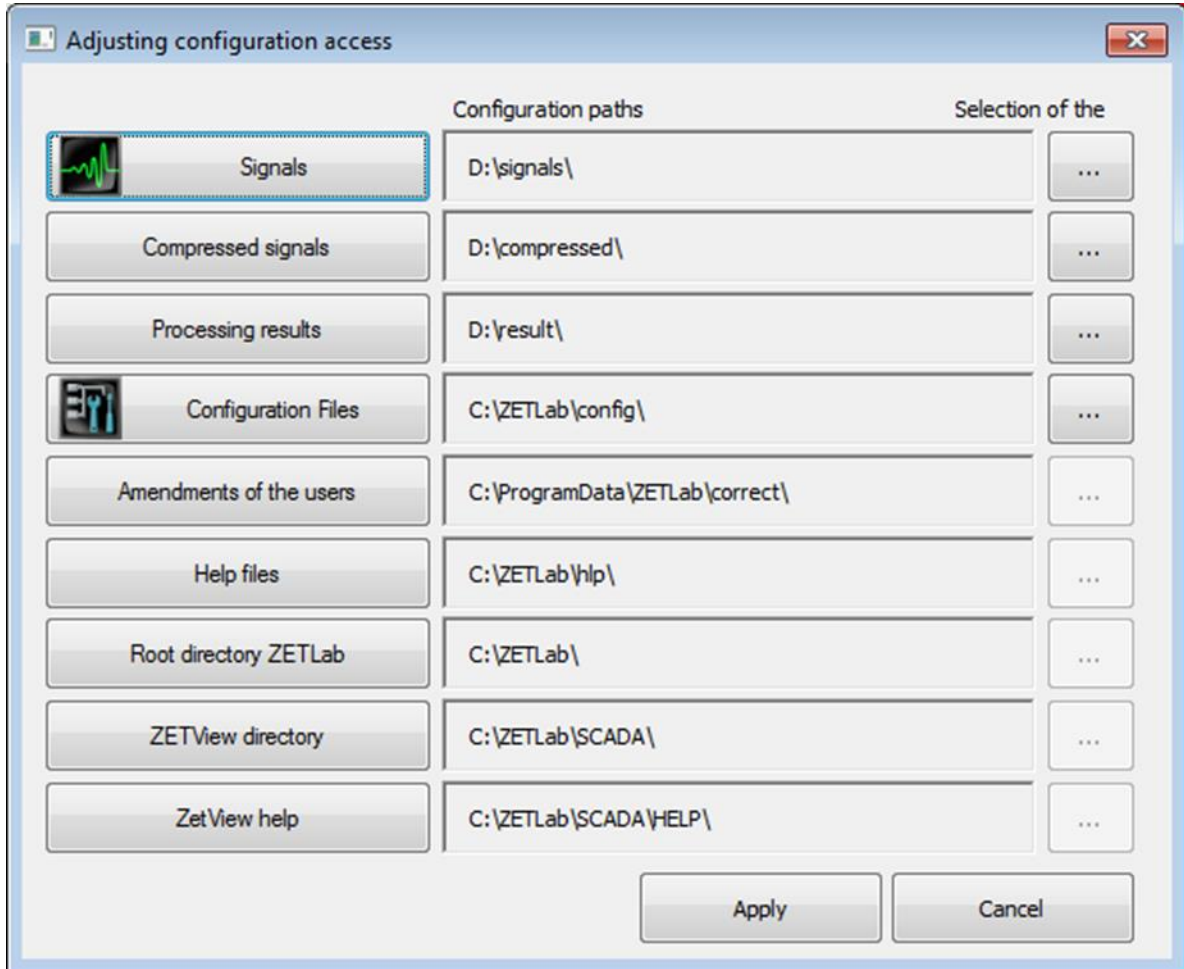

Figure 3.2 Window “Adjusting configuration access”
In the window “Adjusting configuration access” (*Figure 3.2*) enable the panel «...» for each of the directories corresponding to the type of the saved data (signals, compressed signals), you will see the window “Choose the directory”. Here you can assign configuration path and enable “Apply” key.
4) Select the necessary time span and activate “Apply” key. It will start the process of files saving and conversion into the file directories for storing signals and compressed signals data (*Figure 3.2*).